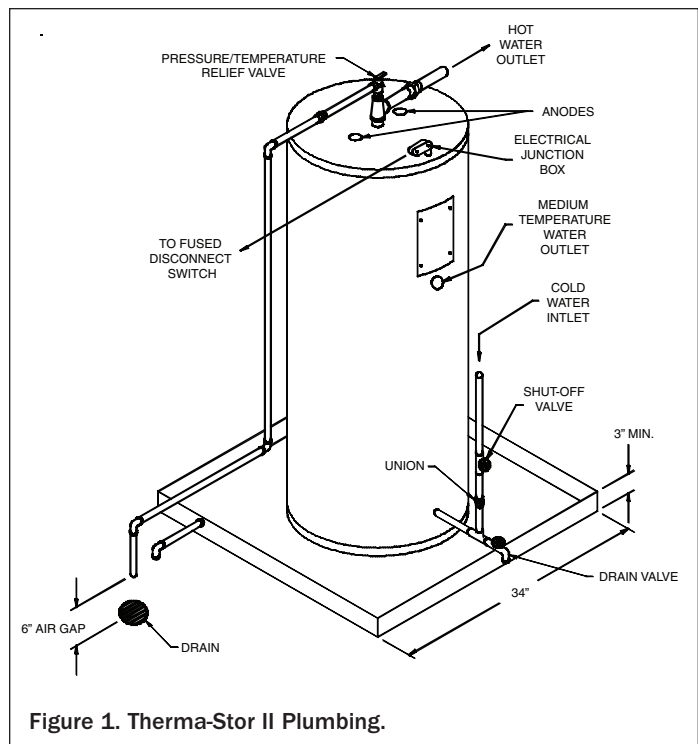

Figure 1. Therma-Stor II Plumbing.
4. Locate the Therma-Stor II in an area where water would not damage the surroundings or critical areas of the building if a fitting leaks. If a pitched floor to an open drain is not available, a catch pan should be constructed. See Figure 1.
2. The cold water inlet is located at the bottom of the tank. Provide a union, shut-off valve, and drain valve for this connection. Refer to Figure 1 for typical arrangements.